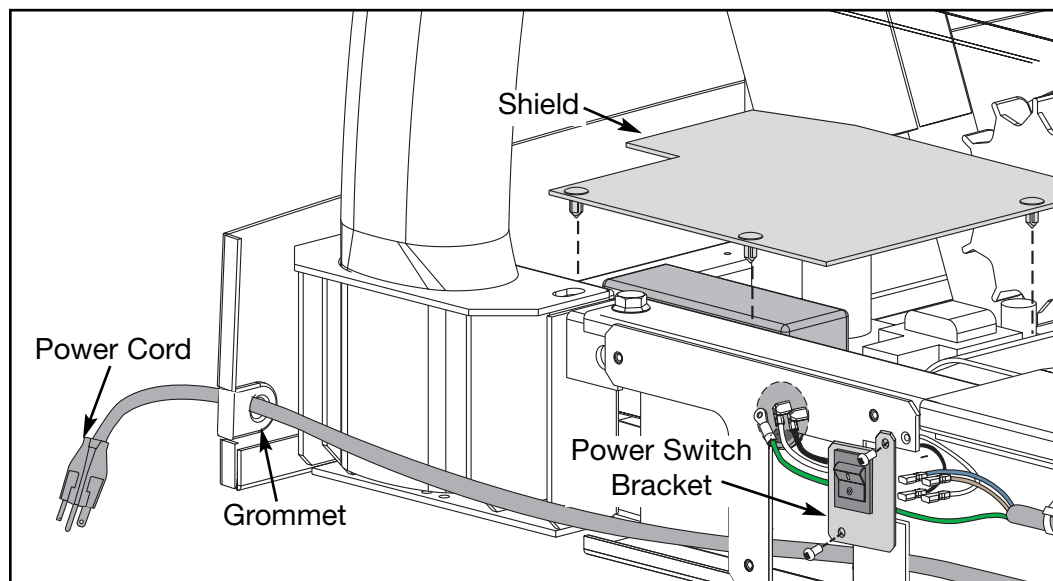

Figure 17
- A. Remove the old power cord and discard the power cord (and power switch if applicable). See Figure 17.